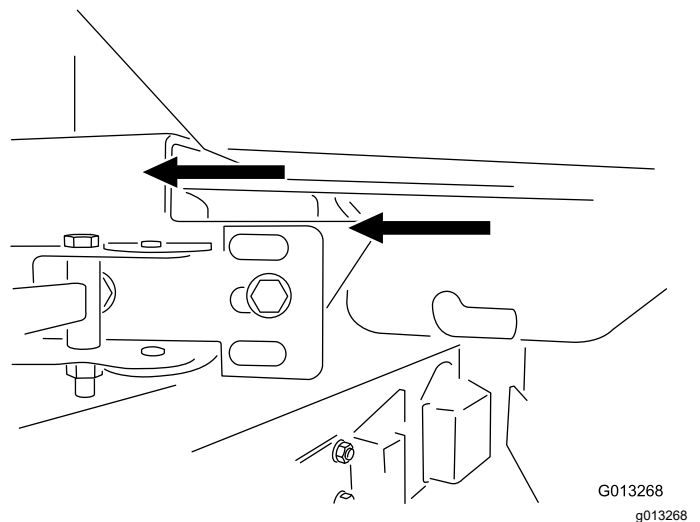

Figure 3
5. Leaving the conveyor attached to the swivel, having an assistant help you, lift the swivel into position and align the plastic bearing locations with the mounting brackets arrows (Figure 3).